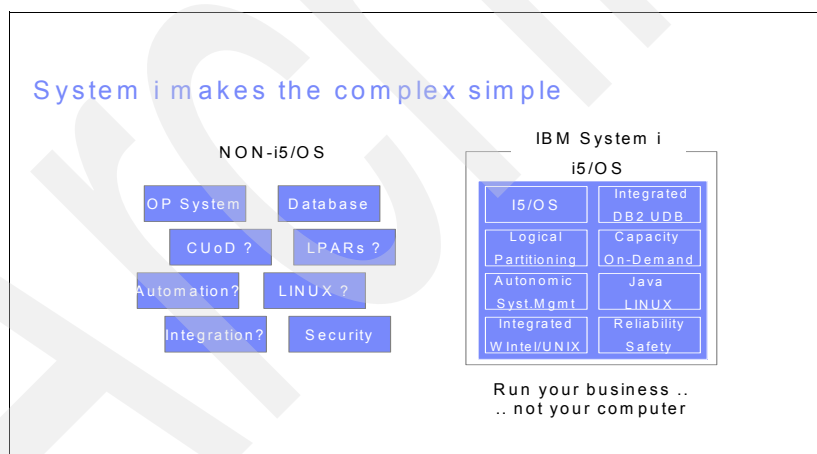

Figure 1-1 IBM System i - An integrated system
As a business owner, you need to run your business and you need your information technology (IT) system to work, every day. An i5/OS and IBM System i solution can help you meet these needs. One key factor that differentiates the System i platform from other platforms is the level of hardware and software integration. For example, in a UNIX environment, you must select software components from different vendors (operating system, database software, system management software, and so on) and integrate them to build a working environment for an SAP system. The System i architecture takes a simpler integrated approach, as shown in Figure 1-1.